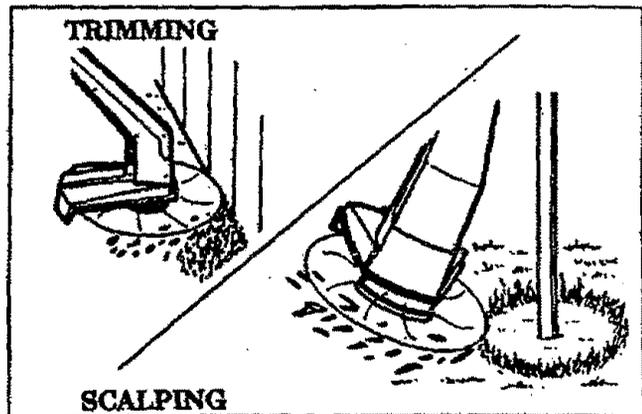

Figure 9
1. **TRIMMING** - Figure 9. Hold the bottom of the trimmer head about 3 inches above the ground and at an angle. Allow only the tip of the line to make contact. Do not force the trimmer line into the work area.
2. **SCALPING** - Figure 9. The scalping technique removes unwanted vegetation. Hold the bottom of the trimmer head about 3 inches above the ground and at an angle. Allow the tip of the line to strike the ground around trees, posts, monuments, etc. This technique increases line wear.